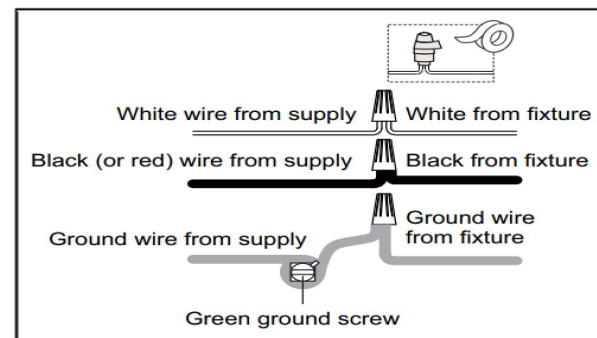

Fig.2
2. Connect the electrical wires as shown in **Fig.2**.
3. Place the glass shade(7) of the lamp over the fixture frame (5). Insert the fixture shade screws (4) and tighten to secure and then install the fixture to the mounting backplate by the fixture screws(6) and tighten to secure.